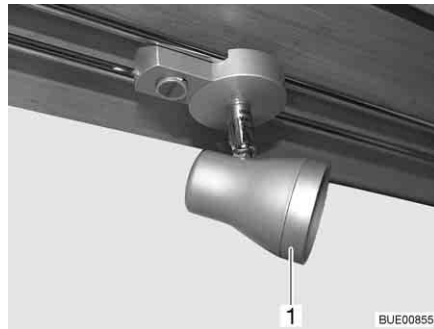

Fig. 288 Halogen spotlight (movable)
- Turn outer ring (Fig. 288,1) in an anticlockwise direction until it separates from the housing.